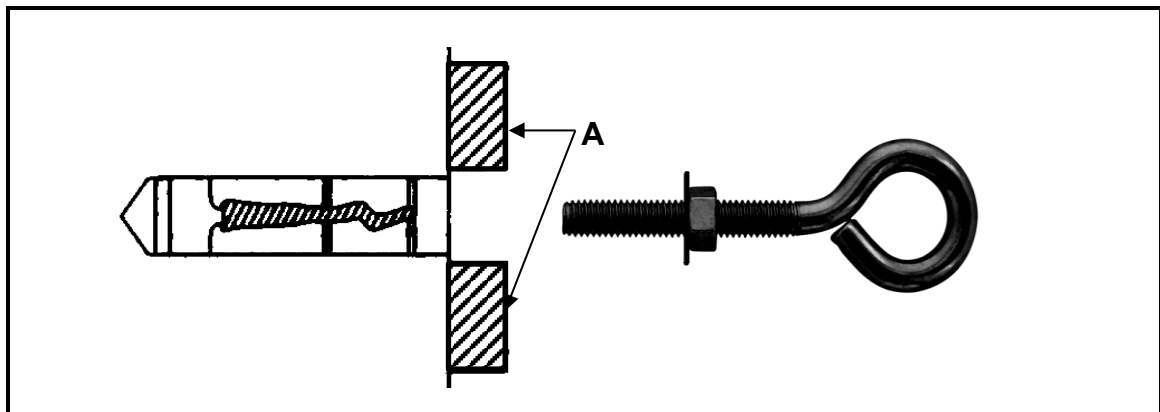

FIGURE 2.8
2.8 FIGURE 2.8 shows the anchor shield of a rawl bolt in the hole and accessory A placed in position. Answer the following questions regarding the attachment in FIGURE 2.8.